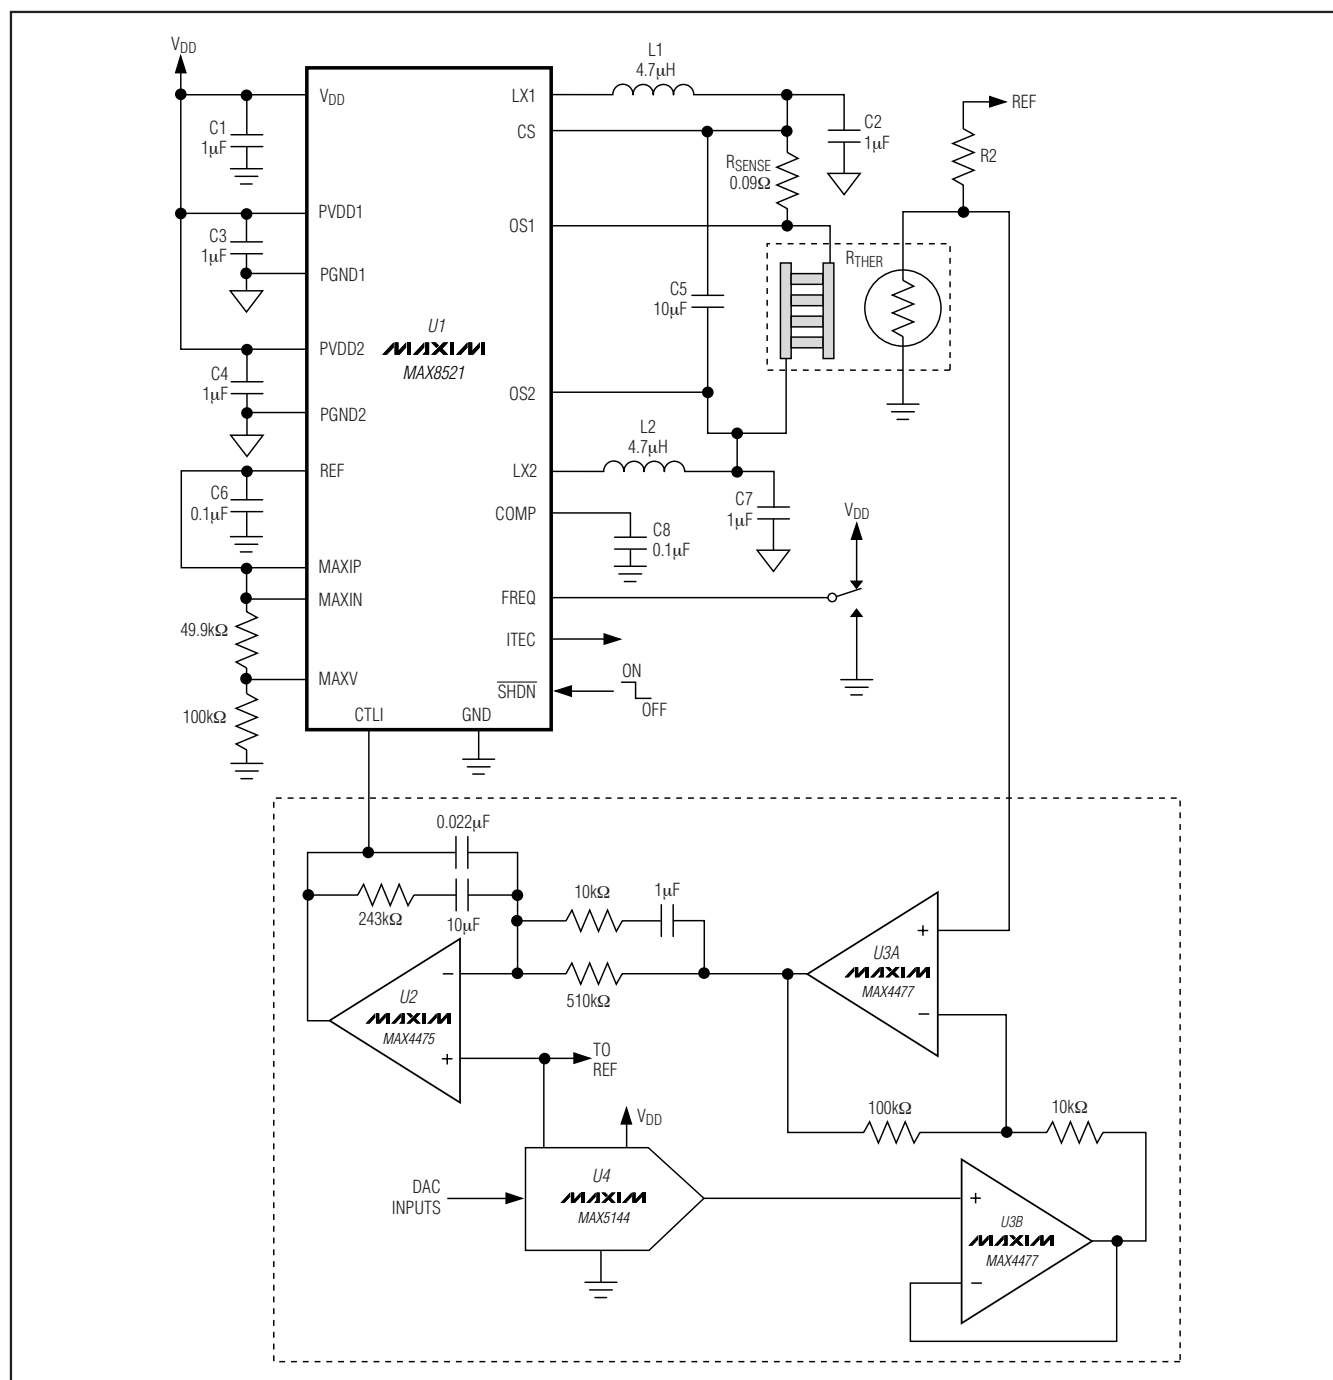

Figure 1. MAX8521 Typical Application Circuit
($V_{DD} = 5V$, circuit of Figure 1, $T_A = +25^\circ C$ unless otherwise noted.)
The MAX8520/MAX8521 TEC drivers consist of two switching buck regulators that operate together to directly control the TEC current. This configuration creates a differential voltage across the TEC, allowing bi-directional TEC current for controlled cooling and heating. Controlled cooling and heating allow accurate TEC temperature control to within 0.01°C. The voltage at CTLI directly sets the TEC current. An external thermal-control loop is typically used to drive CTLI. Figures 1 and 2 show examples of the thermal-control-loop circuit.
Table 1. TEC Connection for Figure 1
The MAX8520/MAX8521 include an on-chip voltage reference. The 1.50V reference is accurate to 1% over temperature. Bypass REF with 0.1μF to GND. REF can be used to bias an external thermistor for temperature sensing as shown in Figures 1 and 2.
The common-mode filter capacitors (C2 and C7 of Figure 1) are used as filter capacitors to ground for each output. The output ripple voltage depends on the capacitance, the ESR of these capacitors, and the inductor ripple current. Ceramic capacitors are recommended for their low ESR and impedance at high frequency.
The differential-mode filter capacitor (C5 in Figure 1) is used to bypass differential ripple current through the TEC as the result of unequal duty cycle of each output. This happens when the TEC current is not at zero. As TEC current increases from zero, both outputs move away from the 50% duty-cycle point complementarily. The common-mode ripple decreases, but the differential ripple does not cancel perfectly, and there will be a resulting differential ripple. The maximum value happens when one output is at 75% duty cycle and the other is at 25% duty cycle. At this operating point, the differential ripple is equal to 1/2 of the maximum common-mode ripple. The TEC ripple current determines the TEC performance, because the maximum temperature differential that can be created between the terminals of the TEC depends on the ratio of ripple current and DC current. The lower the ripple current, the closer to the ideal maximum. The differential-mode capacitor provides a low-impedance path for the ripple current to flow, so that the TEC ripple current is greatly reduced. The TEC ripple current then can be calculated as follows:
There are numerous ways to implement the thermal loop. Figures 1 and 2 show designs that employ precision op amps, along with a DAC or potentiometer to set the control temperature. The loop can also be implemented digitally, using a precision A/D to read the thermistor or other temperature sensor, a microcontroller to implement the control algorithm, and a DAC (or filtered-PWM signal) to send the appropriate signal to the MAX8520/MAX8521 CTLI input. Regardless of the form taken by the thermal-control circuitry, all designs are similar in that they read temperature, compare it to a set-point signal, and then send an error-correcting signal to the MAX8520/MAX8521 that moves the temperature in the appropriate direction.
6) To ensure high DC-loop gain and minimum loop error, keep the board layout adjacent to the negative input pin of the integrator (U2 in Figure1) clean and free of moisture. Any contamination or leakage current into this node can act to lower the DC gain of the integrator which can degrade the accuracy of the thermal loop. If space is available, it can also be helpful to surround the negative input node of the integrator with a grounded guard ring.